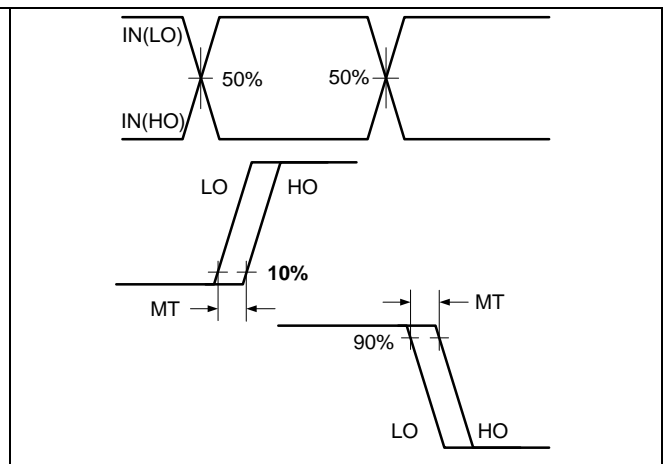

Figure 9 Delay Matching Waveform Definitions
The deadtime circuitry of 2ED2183 (4) S06F (J) is matched with respect to the high- and low-side outputs. Figure 9 defines the two deadtime parameters (i.e., DT_{LO-HO} and DT_{HO-LO}); the deadtime matching parameter (MDT) associated with the 2ED2183S06F (J) specifies the maximum difference between DT_{LO-HO} and DT_{HO-LO} .